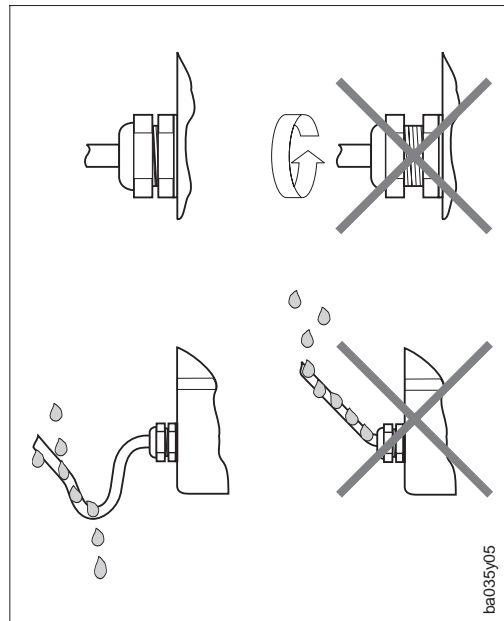

Fig. 3
- The cable gland must be tightened firmly (see Fig. 3).
- The cable must loop down before entering the cable gland to ensure that no moisture can enter it (see Fig. 3).